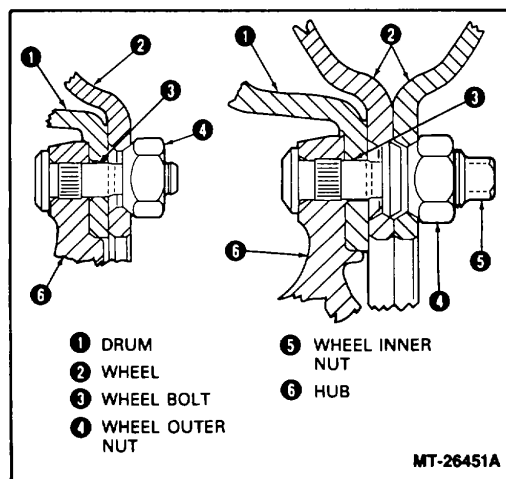

Figure 4. - Outboard Mounted Drum
2. Outboard mounted drum is secured between the wheel and hub (Figure 4). Outboard mounted drums will be used only with disc wheels.